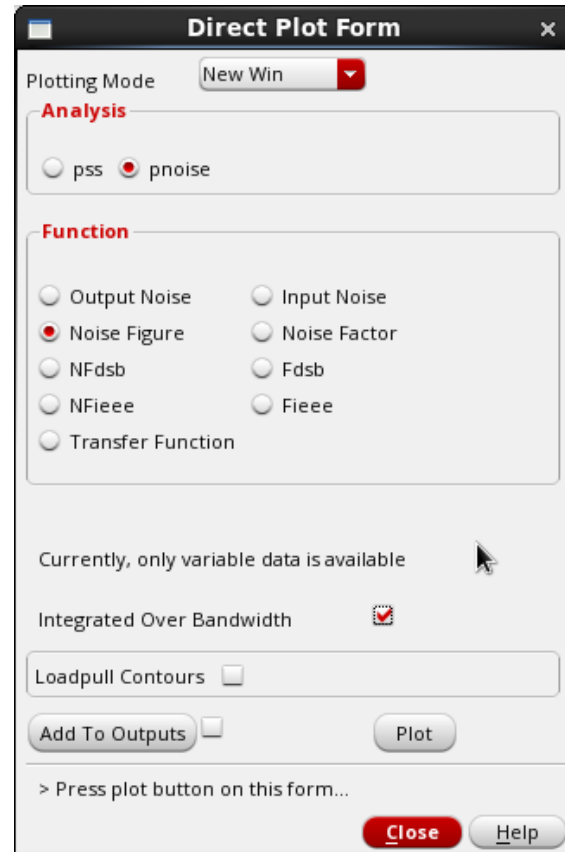

Fig. 26
- From Results/Direct Plot/Main Form choose Pnoise and plot NF,  $NF_{DSB}$ , and  $NF_{SSB}$ . Check the box to calculate “integrated noise over bandwidth” (Fig. 26) .